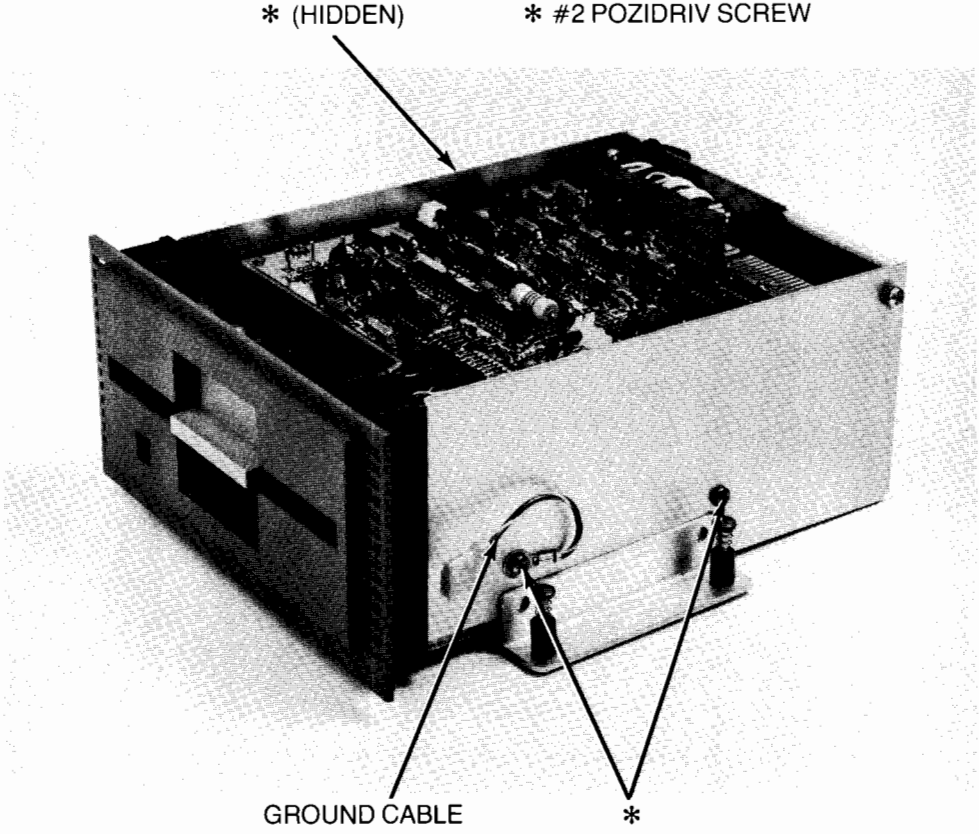

Figure 4-51. Disassembling Flexible Disc Drive, View 1
- 7. Remove four #2 Pozidriv screws (two per side) that attach bucket to drive (Figure 4-51) and lift drive out of bucket. Ground cable is removed in this step. Retain bucket, ground cable, and attaching screws for installation on replacement drive.